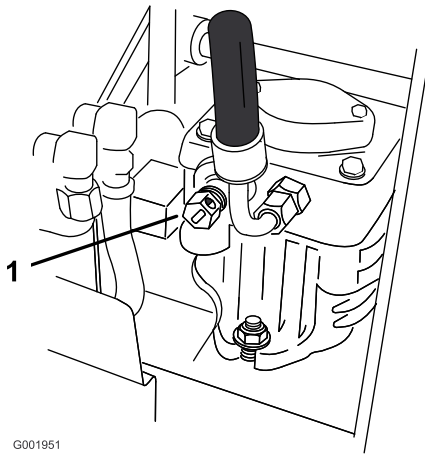

Figure 25
2. Open the bypass valve on both pumps by turning them counterclockwise 1 to 2 turns. This allows hydraulic fluid to bypass the pumps and the wheels to turn (Figure 25).